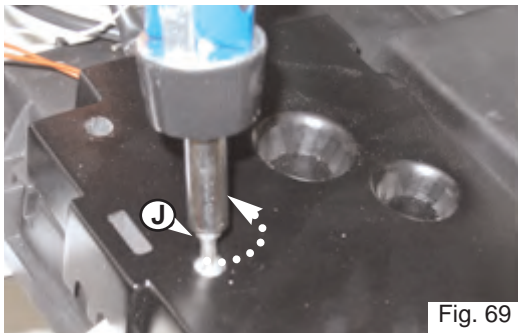
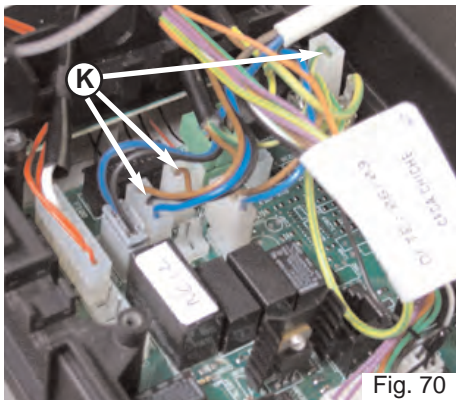

Fig. 69
Fig. 70
3. Remove the two screws "J" of the electrical box (see Fig. 69) and disconnect the electrical connections "K" (see Fig. 70);